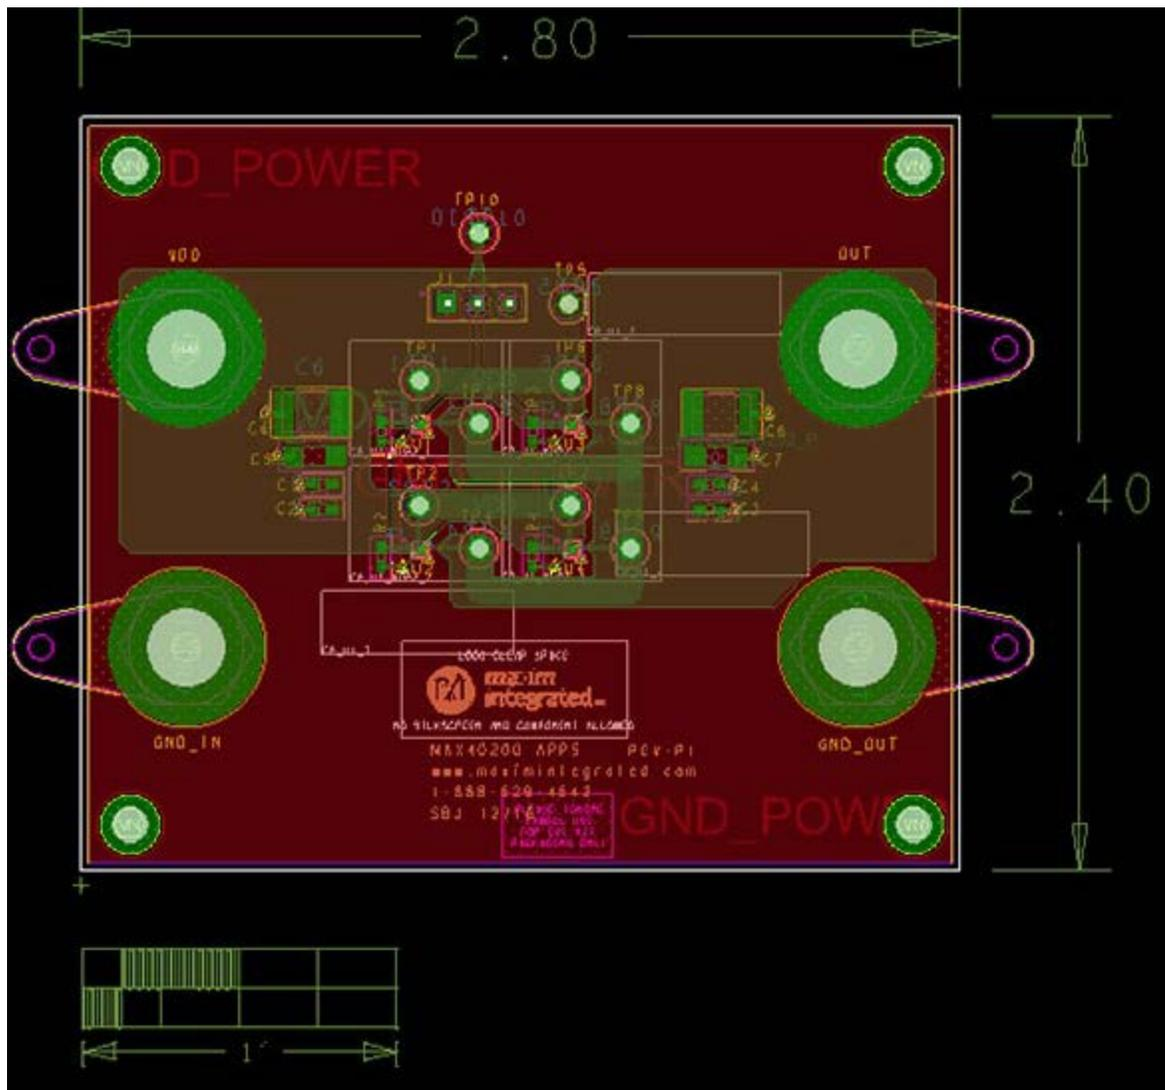
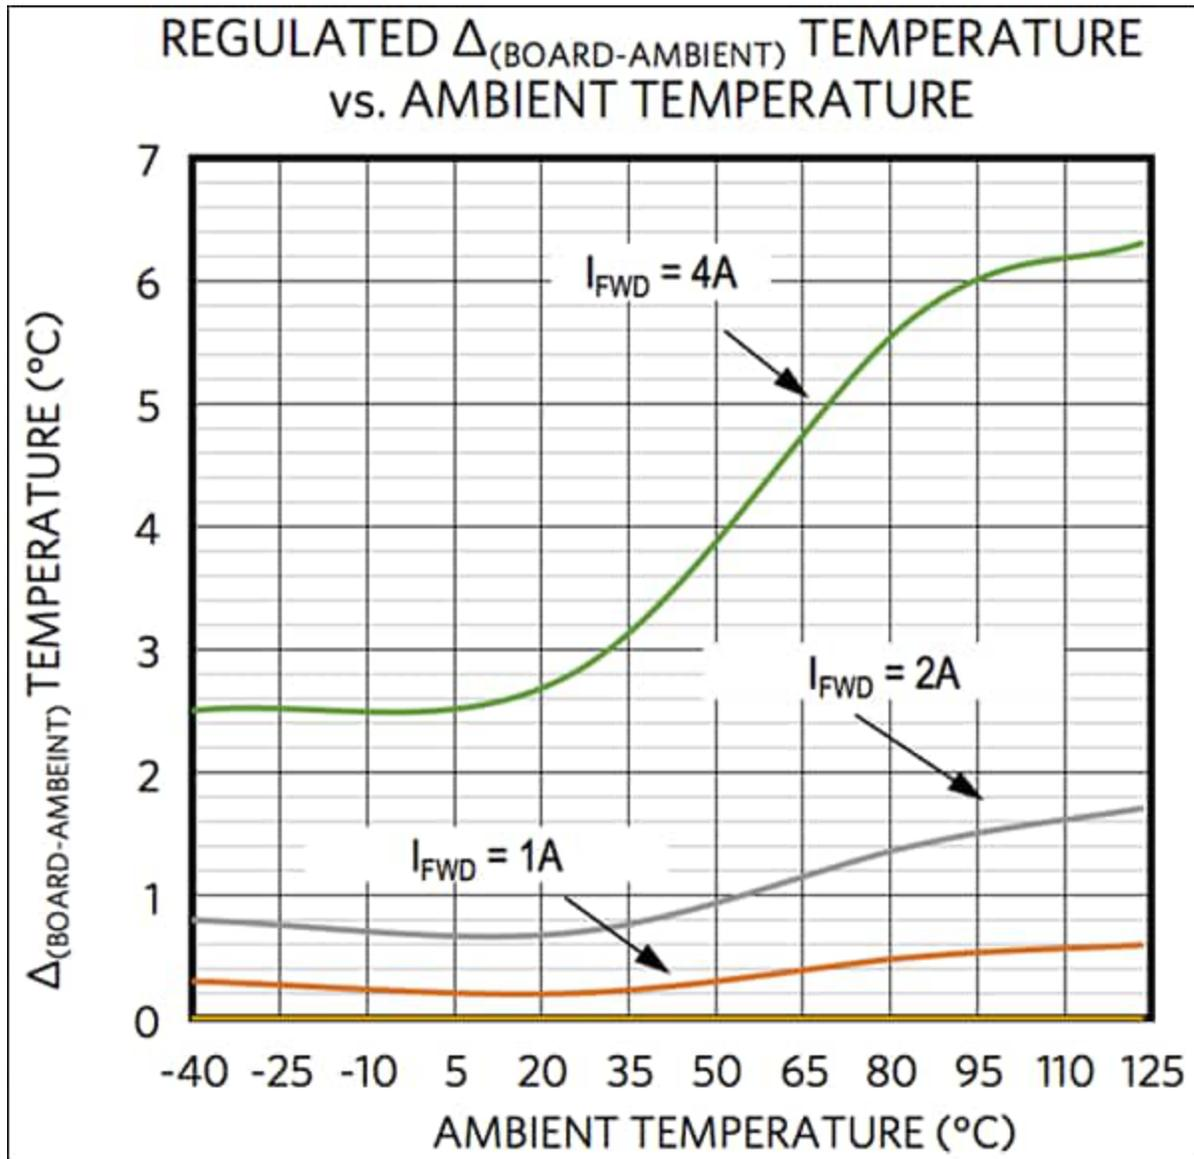

Figure 5. Example of layout technique.
Figure 7. Regulated ambient board temperature vs. ambient temperature.
Figure 5 shows a typical example of board layout using four MAX40200 paralleled devices. As shown, the  $V_{DD}$  and OUT traces on the board have considerable island space of copper pour to decrease the trace resistance and decreasing the current density. Both the  $V_{DD}$  and OUT traces are present on the top layer and no vias are used. Since the physical mechanism that ensures load-current sharing is thermal, the paralleled ideal diodes should be located as close as practical to each other. Given that currents are presumably quite large, or one would not need to parallel the parts, the PCB should use the thickest copper available. Doing so helps spread the heat and reduces voltage drops at high currents. Note that the WLP package is optimal for paralleling multiple units because the small size and good thermal conductivity allow sufficient thermal coupling to make this approach practical.
**Figure 7** shows the temperature difference between the ambient and the board containing paralleled MAX40200 devices. You can observe that the temperature difference is directly proportional to the forward load current passed through the devices. This result was obtained using the board from **Figure 5**.